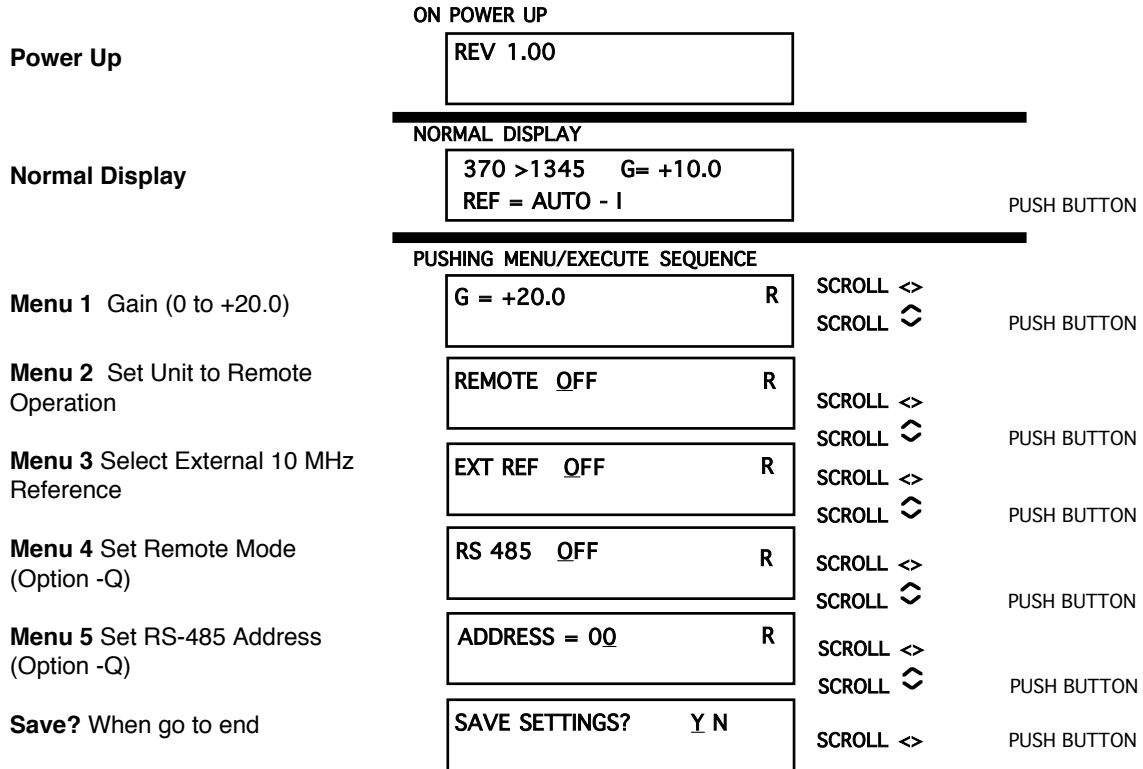

FIGURE 2.5 Menu Display and Sequence
2.5.1 Functions - This section describes operation of the front panel controls. There are three operator switches, the LCD display and alarm indicator LEDs. All functions for the equipment are controlled by these components. The functions are (see Figure 2.5):
Push the Menu/Execute switch to get to the gain setting (See Figure 2.5 for the sequence of menu options):
Figure 2.5 gives the menu items and how to make changes.